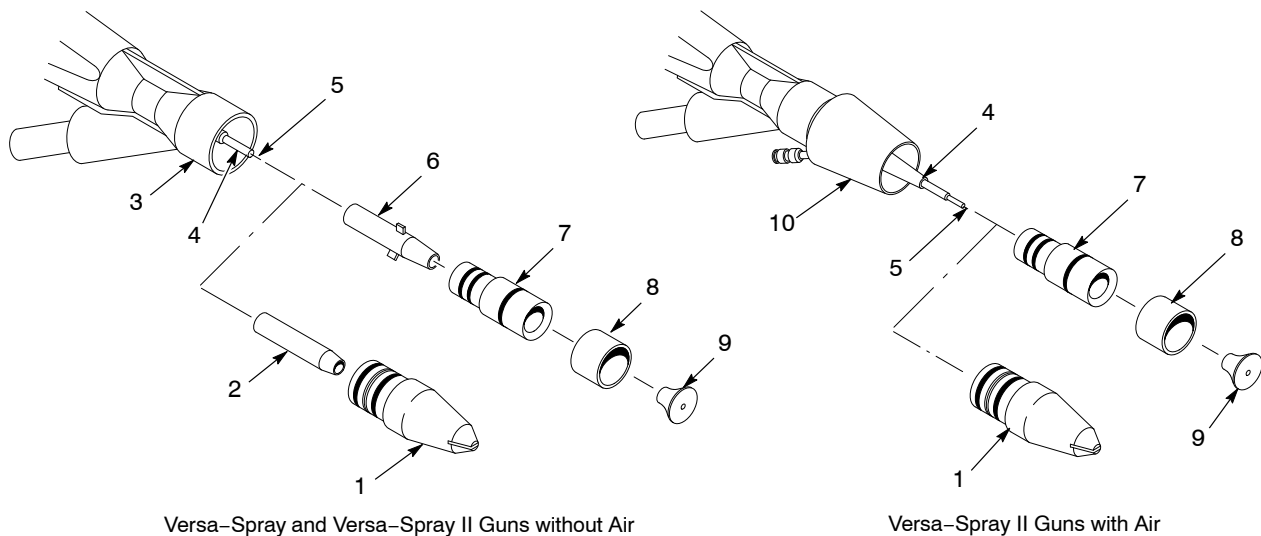

Figure 1 Nozzle Installation
1. See Figure 1. Pull the existing nozzle (1) straight off the gun.
2. Pull the wear sleeve (2) straight off the resistor probe (4).
3. Slide the appropriate wear sleeve (6) over the resistor probe. Be careful not to damage the electrode (5).
4. Push the conical nozzle (7) into the end of the powder inlet body (3) or air extension (10).
5. Slide the pattern adjuster (8) (if used) over the nozzle.
6. Push the deflector (9) onto the end of the resistor probe. Be careful not to damage the electrode.